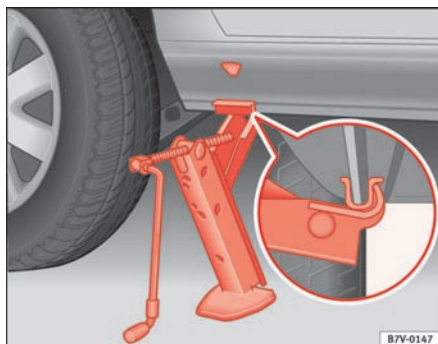

Fig. 162 Jack at rear on right
4. Adjust the jack and continue to crank the claw up until it is in position around the vertical rib ⇒ **fig. 162** (arrow) underneath the vehicle ⇒ ⚠
- The jack claw must grasp the vertical rib under the sill properly so that the jack does not slip off when you are raising the vehicle ⇒ **fig. 162**.